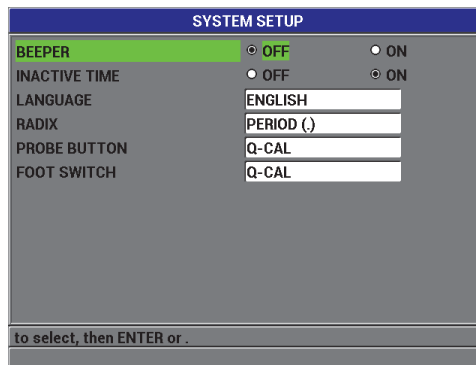

Figure 3-1 The SYSTEM SETUP screen
3. In the **SYSTEM SETUP** screen (see Figure 3-1 on page 52):